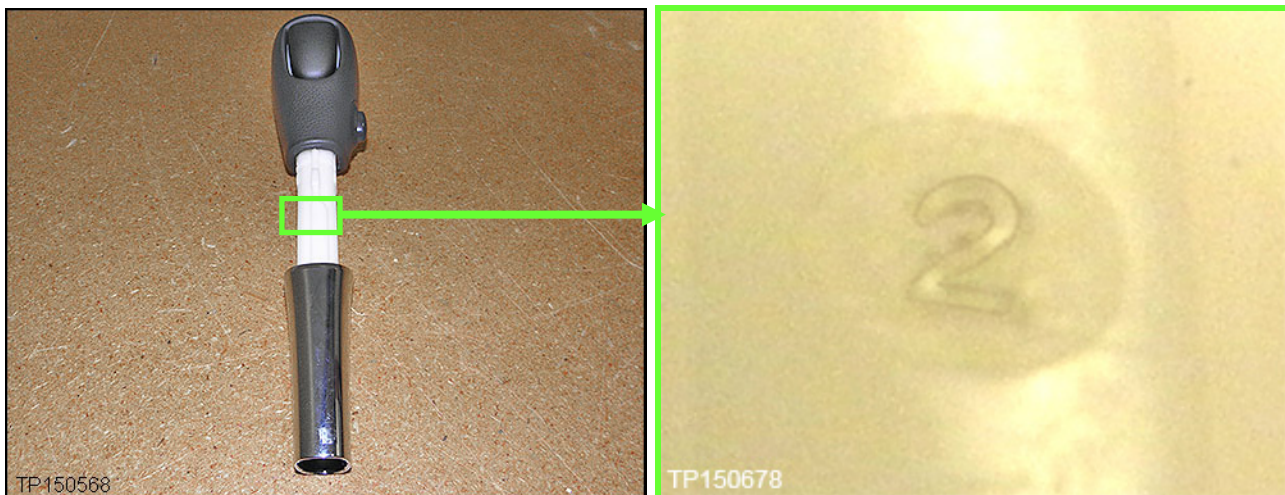

Figure 2
5. Inspect the front of the shift selector knob shaft for the number "2" (Figure 2).